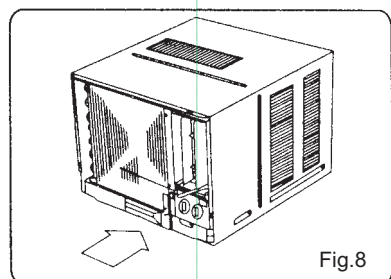

Fig.8
4. Push the unit chassis into the cabinet. (see Fig.8)